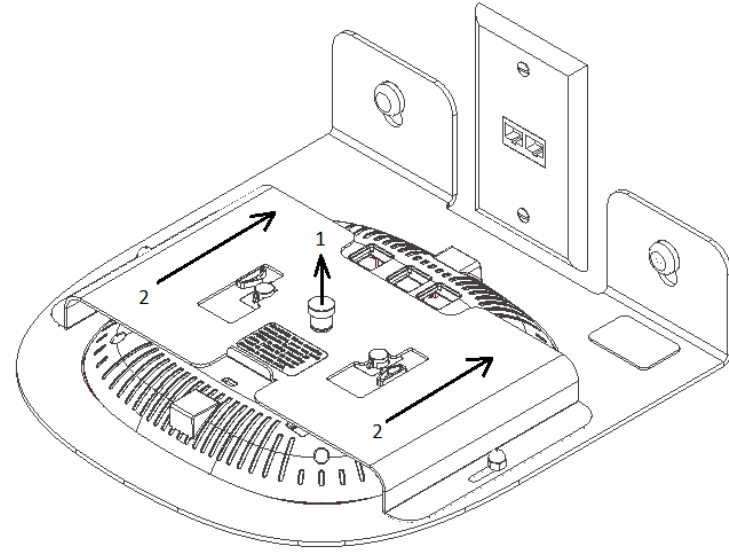

Figure 4
Step 2- With one hand underneath supporting the access point, lift the plunger (1) and slide the mounting plate towards the wall (2) (Ref. figure 4).